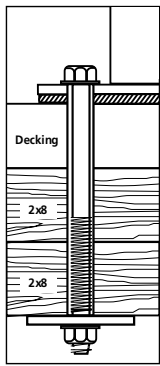

Figure 8
2. Thickness of wood/composite deck and reinforcement boards underneath deck should be a minimum of 4". (Two treated 2" x 8" lumber under the deck board) (Fig. 8). Fasten reinforcement boards with 3" stainless steel fasteners as shown below (Fig. 11).